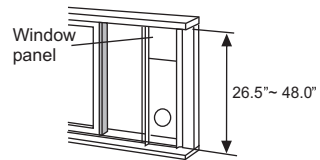

Fig. 16
3. Cut the foam seal(adhesive type) to the proper length and attach it on the top of the window. Shown as in Fig. 16.